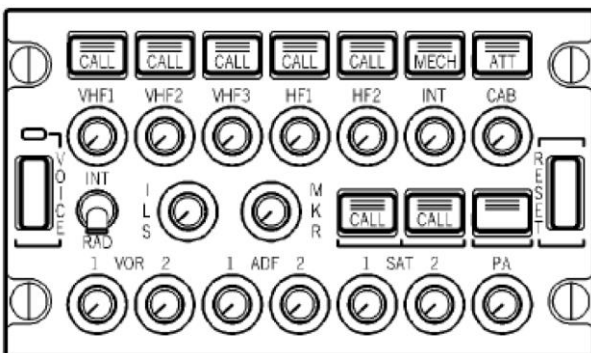

Figure 7-12: ACP - No active calls
- Within 3 seconds, the flashing will stop and the call will be ended (Figure 7-12).